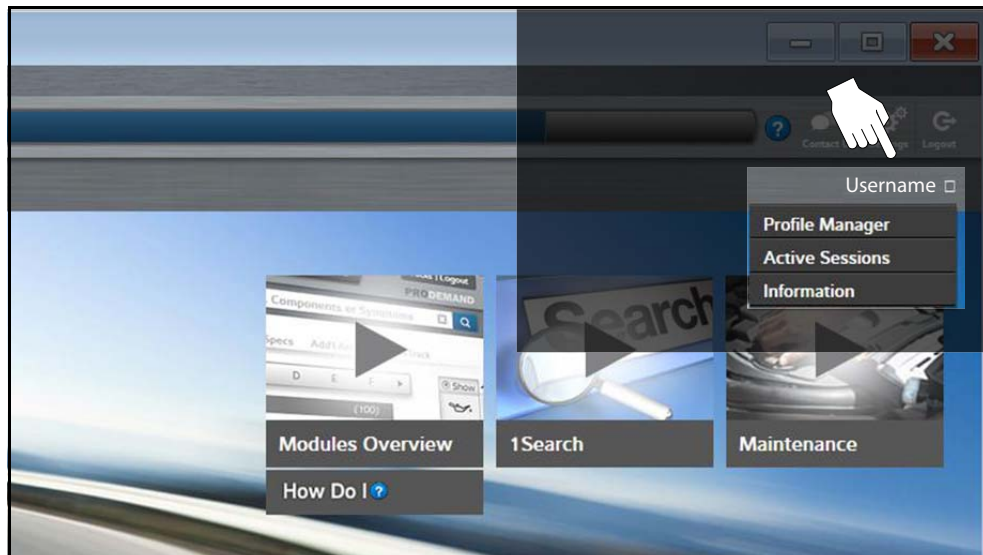

Figure 5-18
2. At the ShopKey Pro start page, select your username (Figure 5-18), then select **Profile Manager** from the dropdown menu.